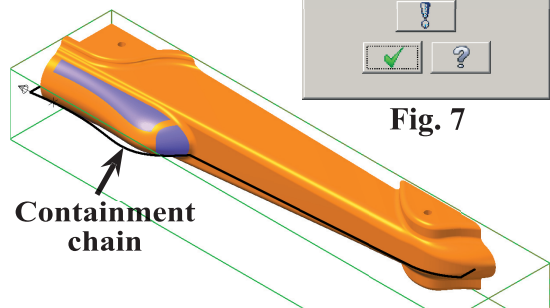

Fig. 8
Step 8. Click any **containment geometry**, **Fig. 8**.